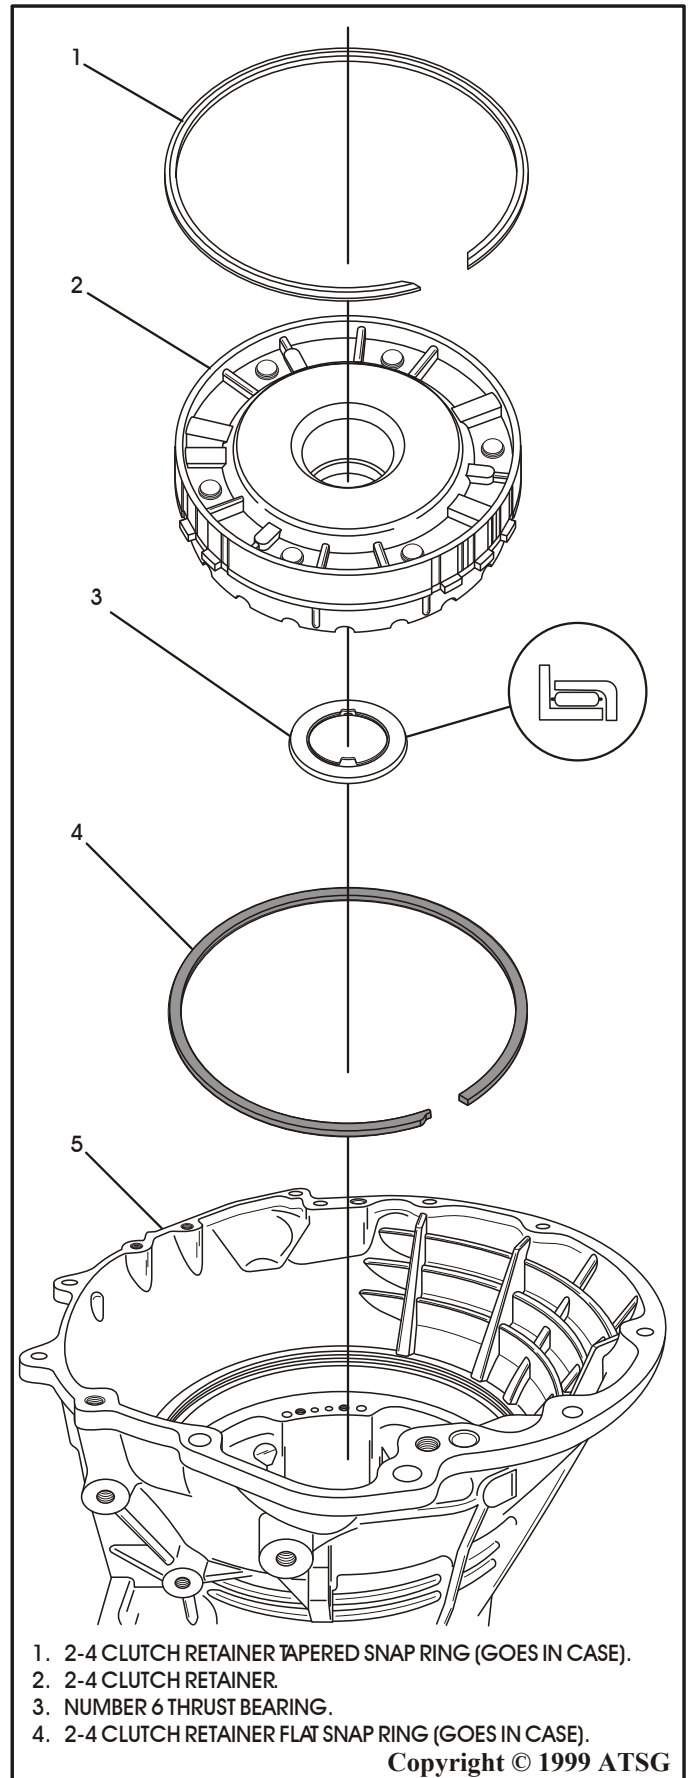

Figure 118
32. Install the 2-4 clutch retainer *flat* snap ring into lower groove in the transmission case. Refer to Figure 118.
33. Install the number six thrust bearing assembly onto the bottom of 2-4 clutch retainer in the direction shown in Figure 118, and retain with a small amount of TransJel®.
34. Install the 2-4 clutch retainer into the case as shown in Figure 118.
35. Install the 2-4 clutch retainer *tapered* snap ring in case with taper facing up (See Figure 118). Ensure snap ring openings face valve body.